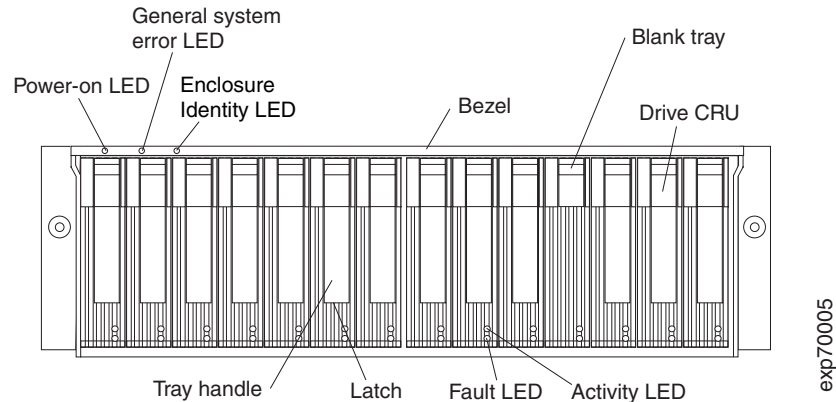

Figure 52. Hot-swap hard disk drive LEDs
2. Check for Fault LEDs shown in Figure 52. If any amber LEDs are lit, see Chapter 4, "Hardware maintenance," on page 77.